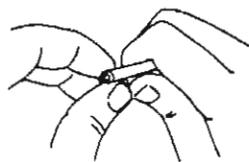

Figure 3-2. Testing the flexible shaft.
(1) Visually inspect the entire surface of the flexible shaft and deflection section for dents, protrusions, holes, or other irregularities.
(2) Pass the entire flexible shaft and deflection section between your thumb and forefinger as illustrated in figure 3-2. This procedure should be accomplished while the shaft is both straight and fully deflected to check for any metallic protrusions or other irregularities.